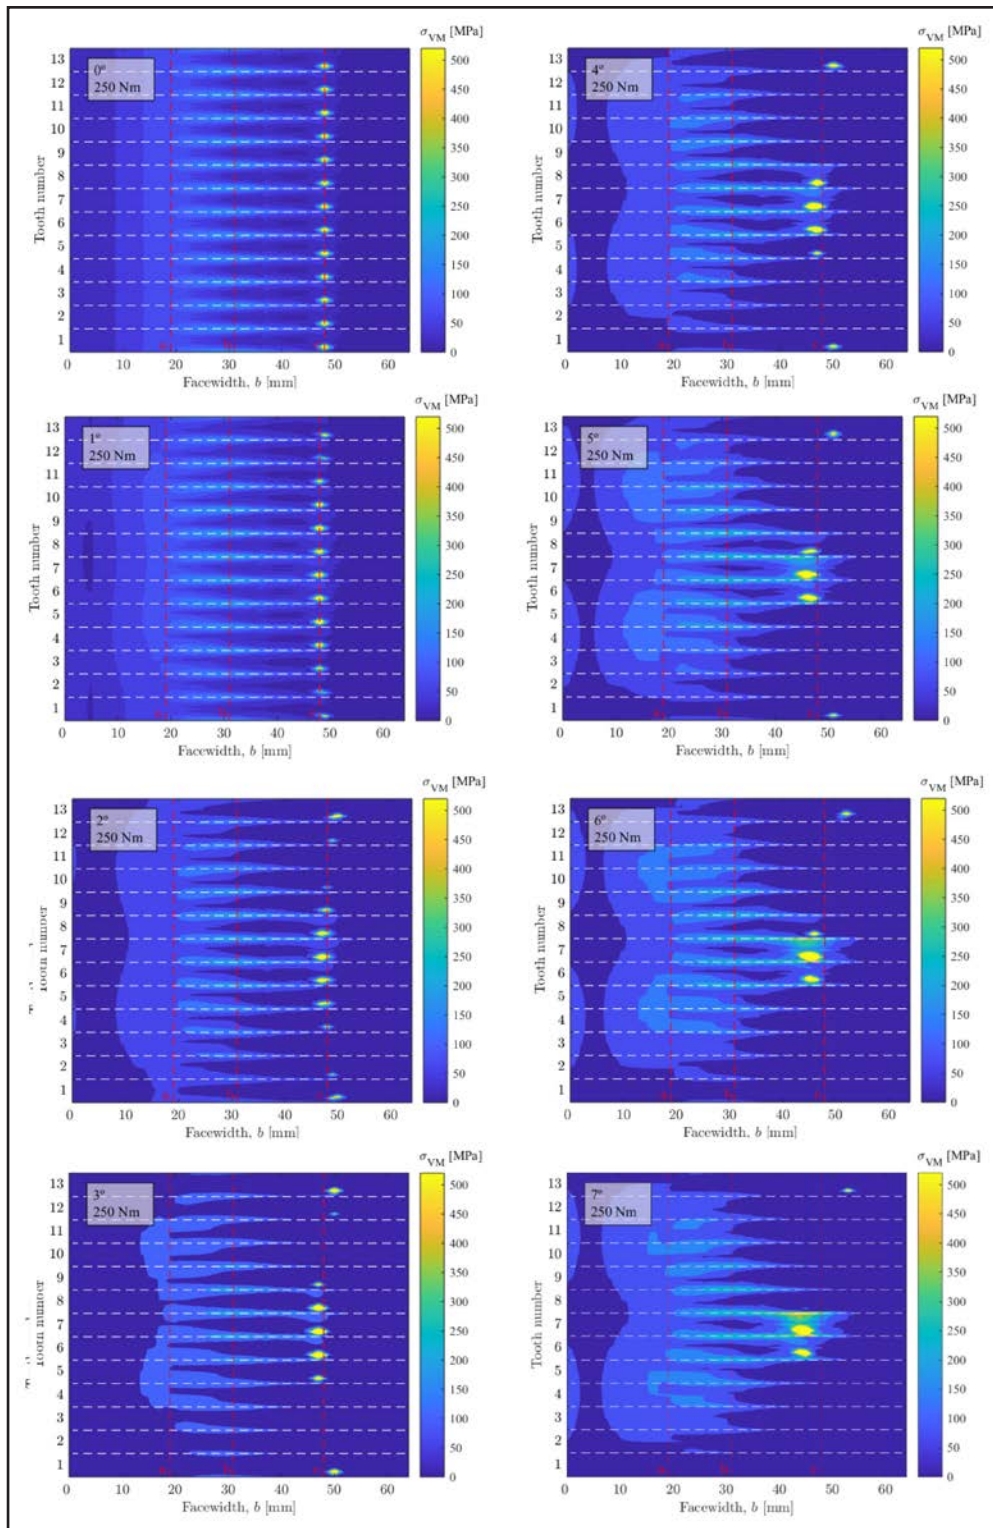

Figure 5 Stress distribution at 250 Nm for different misalignments (1°–7°).
**Tooth root stresses.** Figure 5 shows the contour map of the Von Mises stresses for all the teeth (1 to 13) and misalignments (0° to 7°) at 250 Nm (this torque condition was selected
Figure 8 shows a broken spline coupling after a fatigue test performed at 600 Nm and  $3.6 \cdot 10^5$  cycles. It can be stated that the coupling failure is clearly due to fatigue, as demonstrated by the signs of crack initiation and propagation. As it has been observed in the stress maps, the crack nucleates near the tooth starting area, which is the point where the highest stress concentration takes place (Fig. 5).